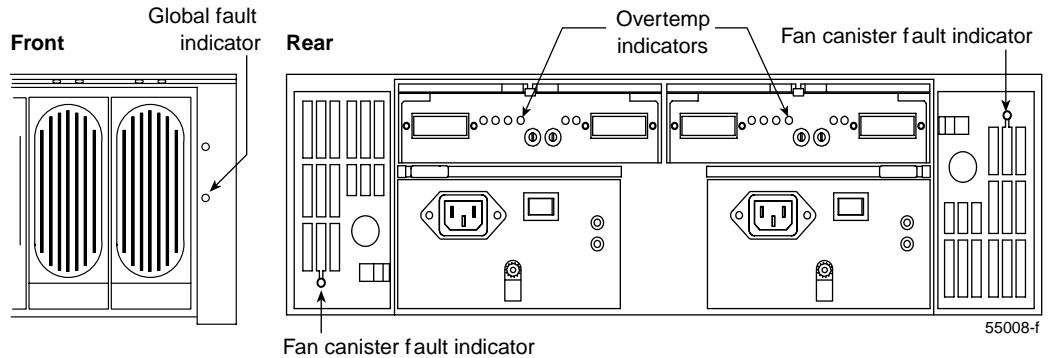

Figure 7-3 Fault Lights for Fan Canister Replacement
12. Check the fault indicators shown in Figure 7-3.
- If any of the other fault indicators shown in Figure 7-3 are on, check the storage management software (TPSSM) to determine the problem.